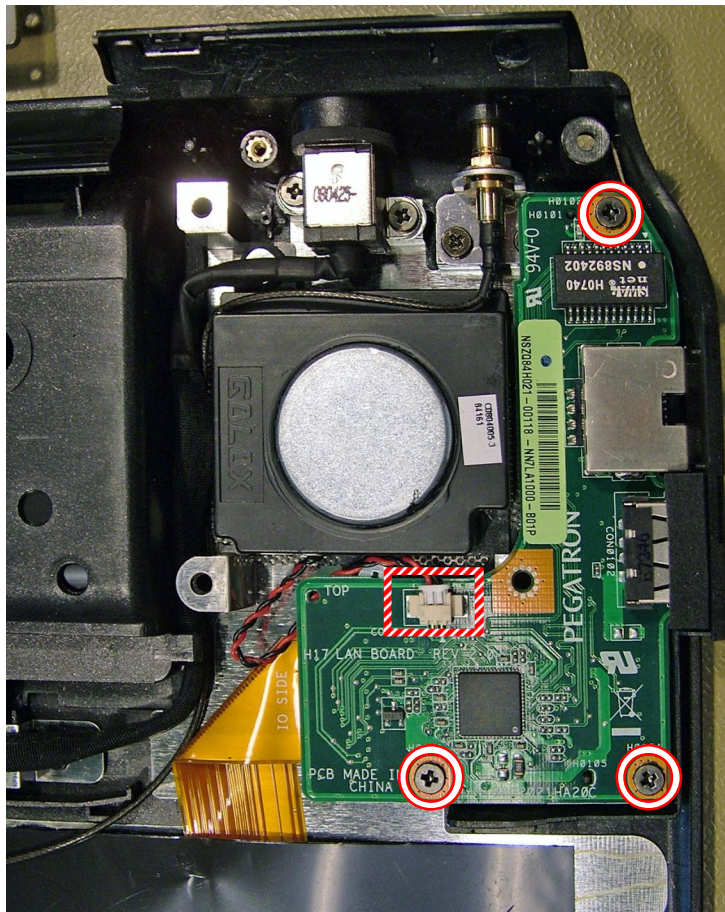

Fig. 36 Location of screws securing Ethernet/USB board.
3. Remove the three screws securing the Ethernet/USB board (see Fig. 36 on page 21).